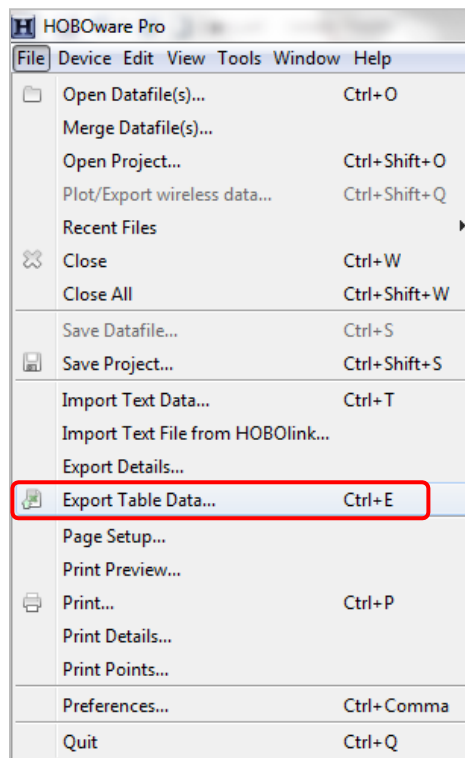

Figure A.12.17: File menu options.
3. Click “File” > “Export Table Data” (Figure A.12.17).